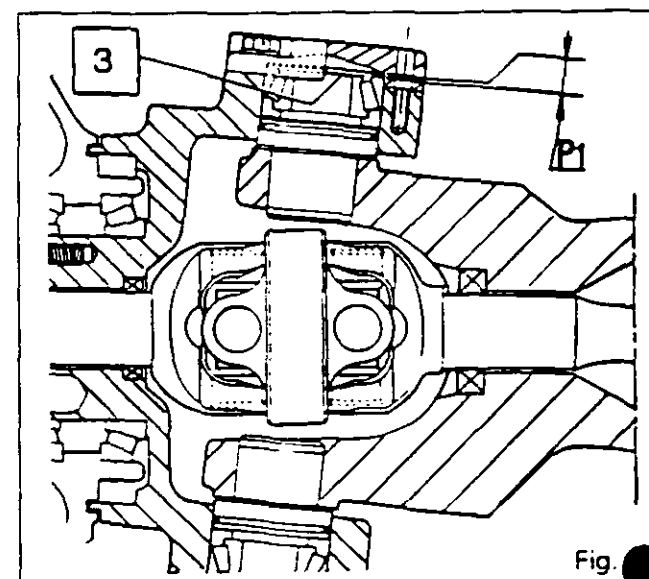

Fig. 6
74. According to the play J, determine the thickness of shims (3) to obtain (Fig. 6):